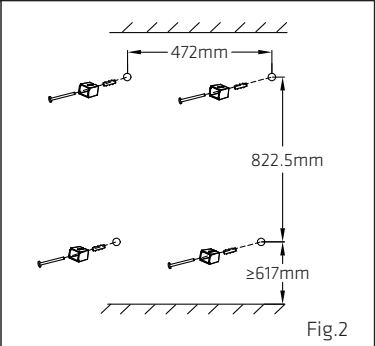

Fig.2
2. Drill holes according to the dimensions shown in the installation diagram, place the wall plugs and fix the wall sleeve to a strong and flat wall. (Fig 2)